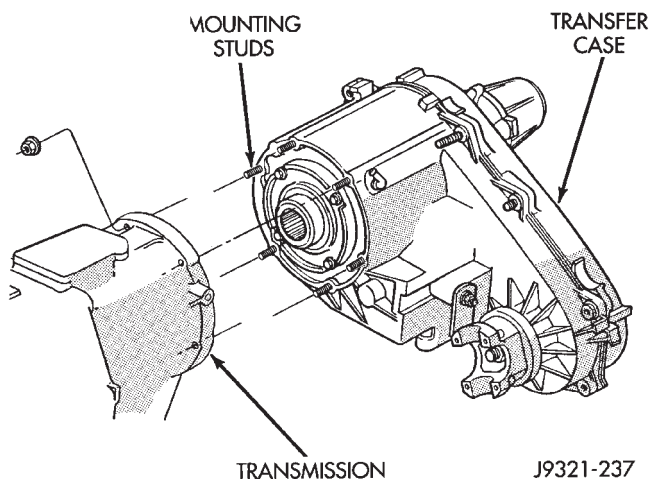

Fig. 5 Transfer Case Attachment
- (1) Mount transfer case on a transmission jack. Secure transfer case to jack with chains.
- (2) Position transfer case under vehicle.
- (3) Align transfer case and transmission shafts and install transfer case on transmission (Fig. 5).
- (4) Install and tighten transfer case attaching nuts to 35 N•m (26 ft. lbs.) torque (Fig. 5).
- (5) Install speedometer adapter if removed during